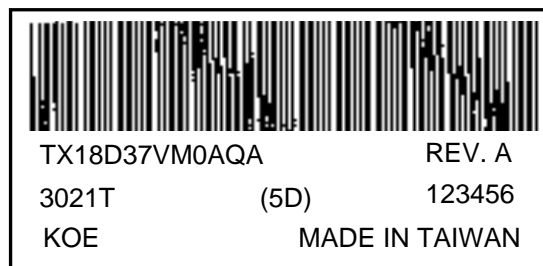

Fig 14.1
1) The lot mark is showing in Fig.14.1. First 4 digits are used to represent production lot, T represented made in Taiwan, and the last 6 digits are the serial number.
- 4) The location of the lot mark is on the back of the display shown in Fig. 14.1.